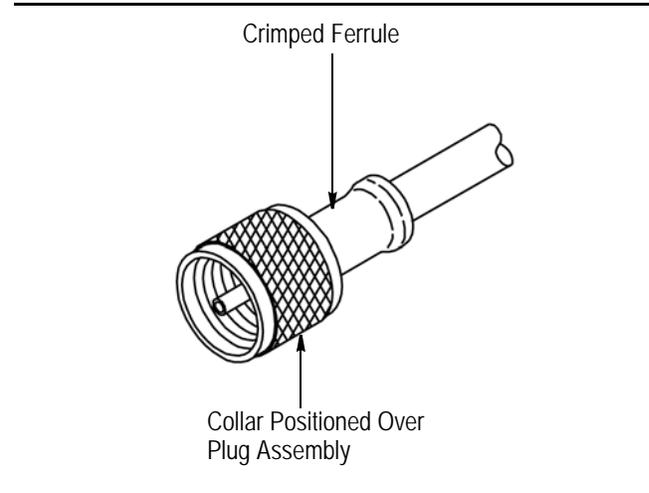

Figure 4
4. Slide collar forward over plug assembly; then slide ferrule over cable braid until flange is positioned against plug assembly. Crimp ferrule using the recommended crimping tool (refer Catalog 1307191 or contact Tooling Assistance Center at the number listed at the bottom of the first page). See Figure 4.